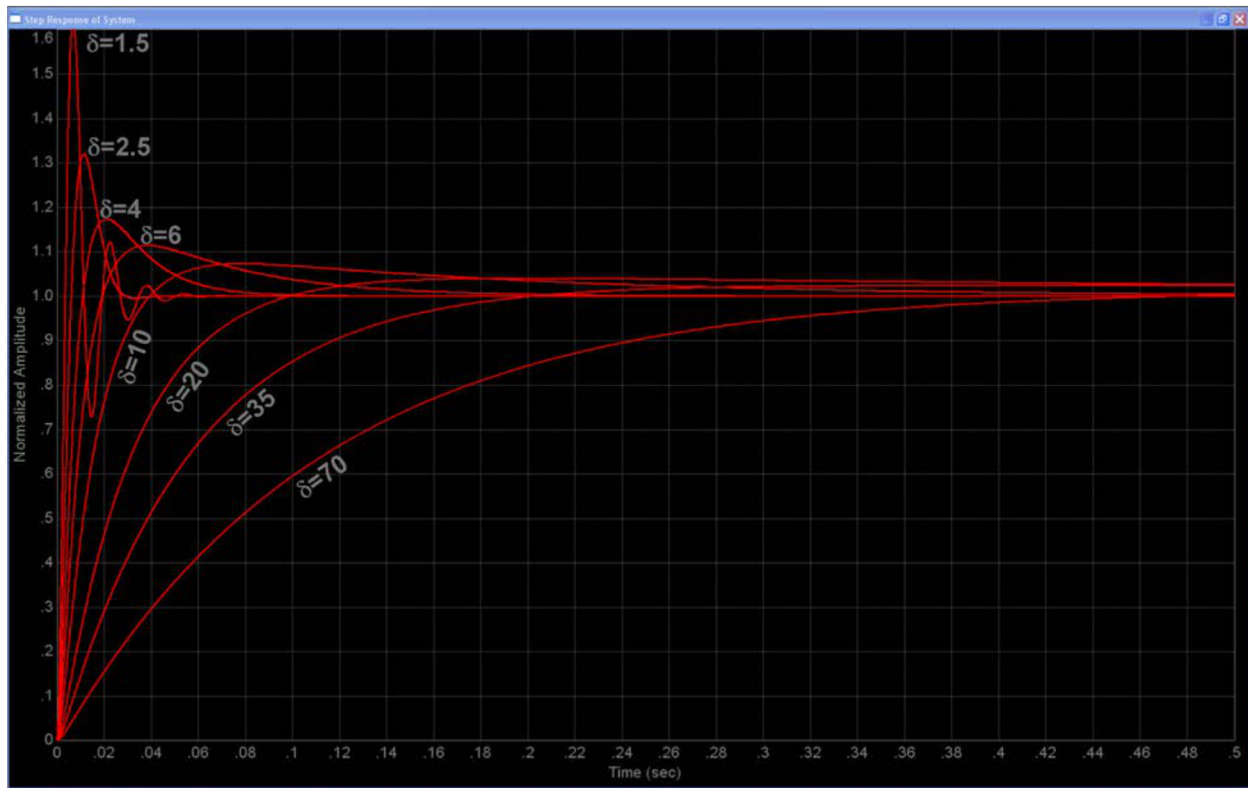

Figure 11-10. Step Response of Speed Controller as a Function of δ
The required frequency separation between the -3 dB cutoff point of the speed closed loop response and the current controller pole is clearly seen along the bottom of the graph for various values of the damping factor. As the damping factor approaches unity, the complex poles in the speed loop approach the required frequency sepdampted ringing. This is perhaps better visualized in Figure 11-10, which shows the normalized step response of the system for various values of the damping factor. Values below 2 are usually unacceptable due to the large amount of overshoot. At the other end of the scale, values much above 30 usually unacceptable due to the large amount of overshoot. At the other end of the scale, values much above 30 usually don't work either because of the extremely long rise and settling times, as seen in the step response curves. In-between these values is usually your design target window.
- Using the shape of the curves in Figure 11-10, find the lowest value of damping factor that will produce a satisfactory response for your speed loop. We have found that it is OK to pick a damping factor with a little more overshoot than you prefer, since integrator clamping will remove most of it anyway. At this point, the scaling of the frequency and time axes is irrelevant.